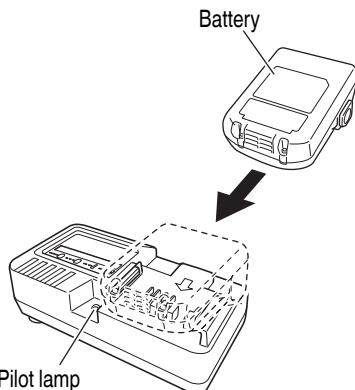

Fig. 6
2. Insert the battery to the battery charger. Insert the battery into the battery charger as shown in Fig. 6. Make sure it contacts the bottom of the battery charger.